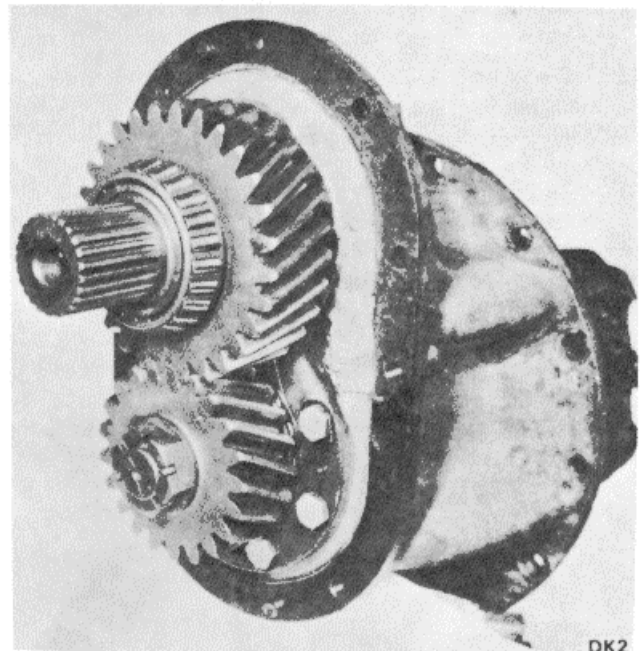

Figure 9C-35. Removing Drive Gear Cover
5. Remove pinion shaft and bearing cage assembly from housing, Figure 9C-37.